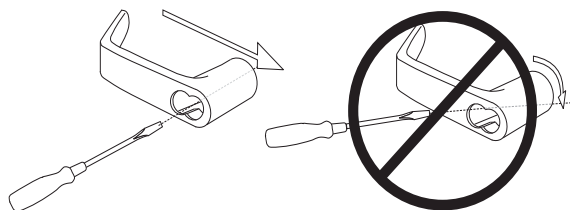

Figure 18 Push the lever keeper to remove the lever
- 4 Push the screwdriver blade in the direction of the arrow in Figure 18.